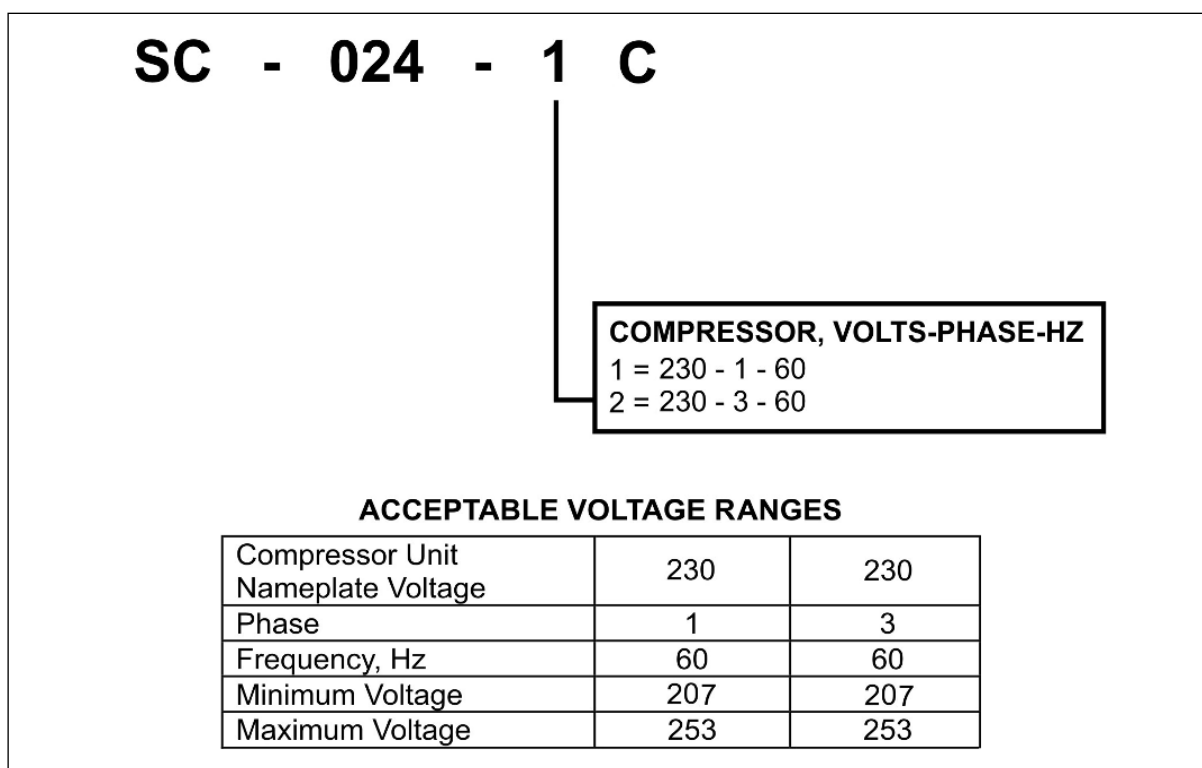

Figure 39. Compressor Unit Voltage Information
After setting the remote (wall) thermostat system switch to the “OFF” position and the thermostat fan switch to the “AUTO” position, proceed to check the supply voltage at (1) the line terminals to the breaker/disconnect; 2) the system side of the breaker/disconnect, and 3) the line-side of the transformer. Verify the proper voltage rating for the system. Reference Figure 39.
- 4. Check incoming power supply voltage** to determine whether it is within acceptable voltage range.* (See Figure 39)
- 5. Check voltage at compressor unit terminals** to determine whether it is within acceptable voltage range.* (See Figure 39)